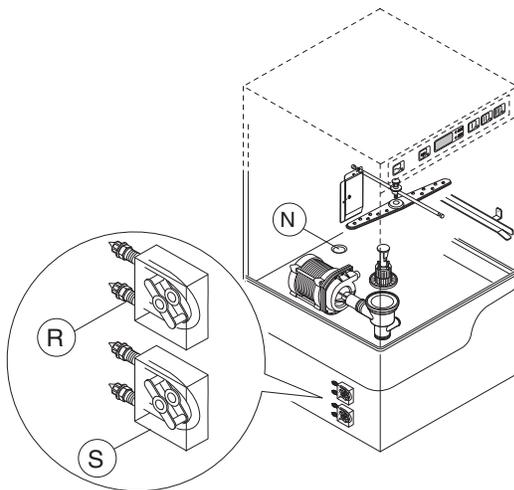

Figure 11
1. Dishwasher with incorporated detergent dispenser pump [R] (Figure 11).
2. Dishwashers with incorporated peristaltic rinse-aid dispenser pump (Figure 11).
Connections for automatic detergent dispenser (Figure 11)